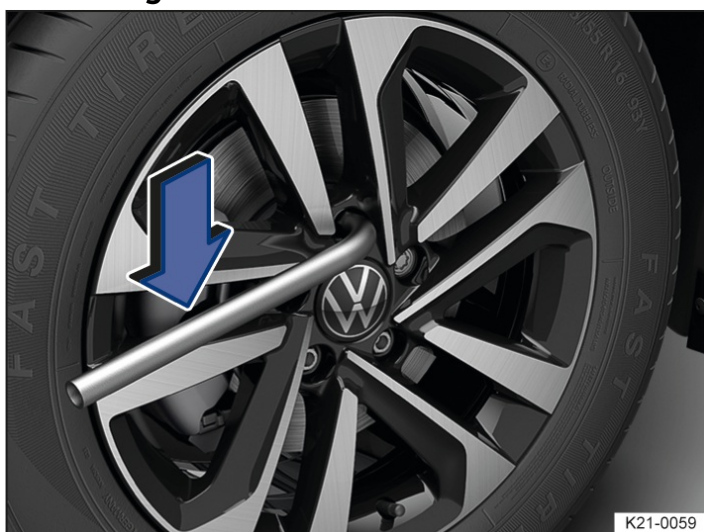

Fig. 1 Unscrew the wheel bolts with the wheel wrench.
4. Using the wheel wrench → *Fig. 1*, completely unscrew loosened wheel bolts and place them on a clean surface.